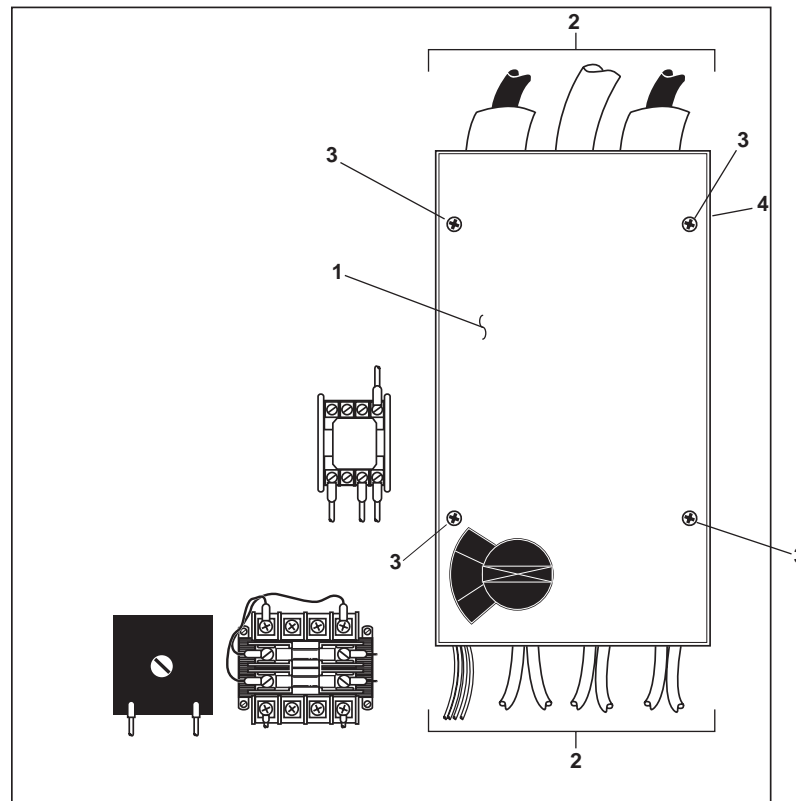

Figure 8. Main Disconnect Switch Replacement
2. Remove the plastic cover (figure 8, item 1).
3. Label and disconnect the wiring (figure 8, item 2).
3. Remove the four mounting screws (figure 8, item 3) that secure the main disconnect switch (figure 8, item 4) to the enclosure.
4. Remove the main disconnect switch (figure 8, item 4) from the enclosure.
1. Install the main disconnect switch (figure 8, item 4) in the enclosure and secure it with the four mounting screws (figure 8, item 3).
2. Connect the wiring (figure 8, item 2) using the labels from step 2 of Removal as a guide. Remove the labels.
3. Install the plastic cover (figure 8, item 1).
Filter Base (Item 4, Figure 8, WP 0088 00)